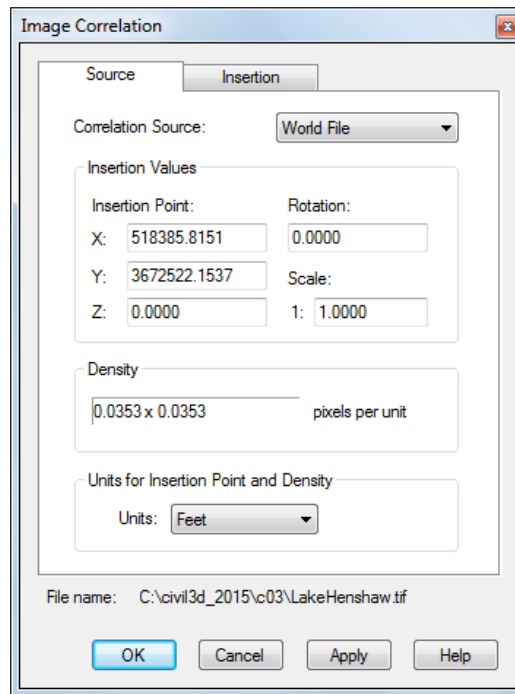

Figure 3-75 The *Image Correlation* dialog box
4. In the **Source** tab of the **Image Correlation** dialog box, select the **World File** option from the **Correlation Source** drop-down list, if it is not selected. Make sure the values of the parameters in the **Source** tab of the dialog box are set as shown in Figure 3-75.